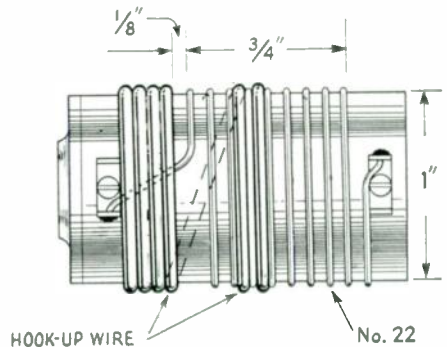

Fig. 3 — Method of interwinding  $L_3$  and  $L_4$  to obtain proper coupling.
- L4 — 6 turns hook-up wire total. 4 turns wound from bottom terminal on same form as L3, remaining 2 turns wound over bottom end of L3, starting 2nd turn up. (See Fig. 3.)